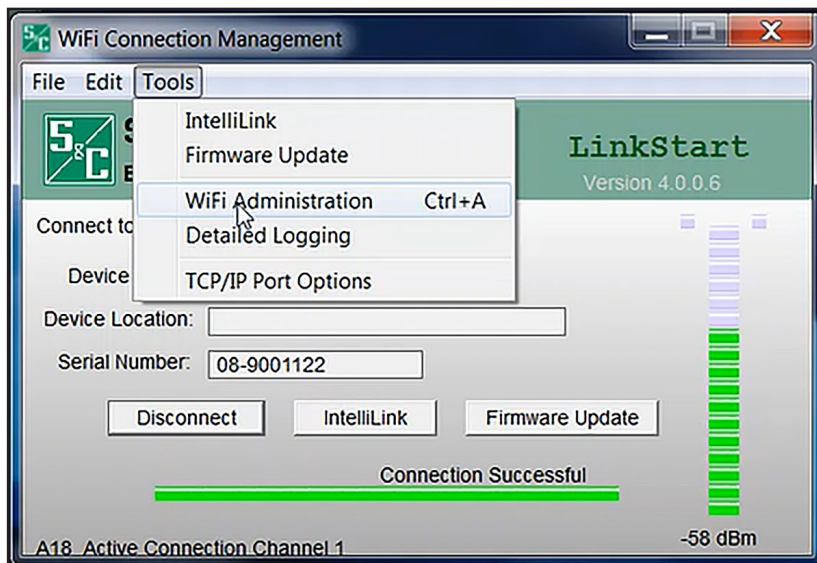

Figure 8. The “Wi-Fi Administration” item on the Tools menu.
- STEP 5.** Open the **Tools** menu and click on the **Wi-Fi Administration** option. See Figure 8.